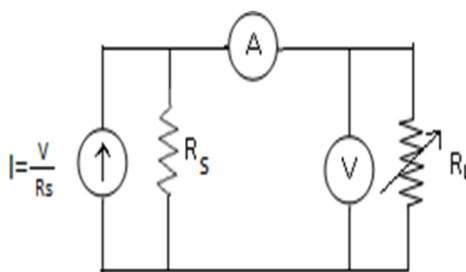

Fig .4
1. Connect the circuit as fig4.